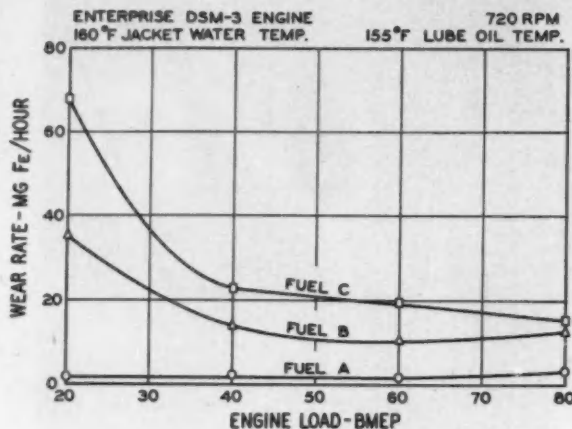

Fig. 1 — Effect of load on wear.
- Engine load had no effect on wear with distillate fuel. But with residual fuel, decreasing engine load produced a marked increase in ring wear (Fig. 1). These data suggest that minor amounts of the residual fuels didn't burn completely at higher loads.